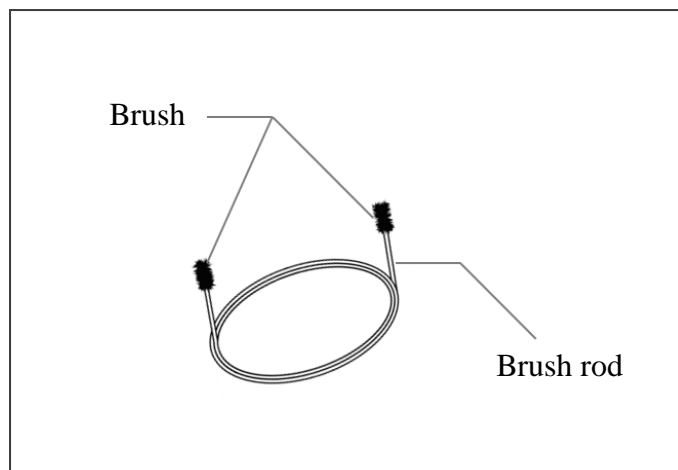

Figure 7.4
The tube cleaning brush is used to scrub the interiors of the clamp pipe and suction channel, and the inner sides or openings of the Suction button, Air/Water Delivery button and clamp pipe opening (as shown in Figure 7.4).
1. Make sure that the brush head and the metal head of the tip are firmly connected. Check whether the brush is loose or fallen off (as shown in Figure 7.4).